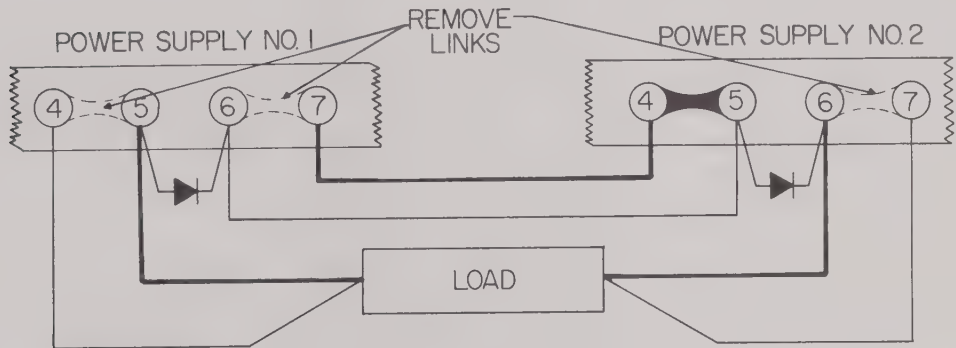

FIG. 3-10 SERIES CONNECTION OF PAX SUPPLIES
3-37 General: Kepco PAX Modules can be series-connected for increased voltage output provided the specified limits on voltage to chassis are not exceeded. When series-connected, the supplies should be protected by means of a semiconductor diode across the output terminals of each power supply, as shown in Fig. 3-10. The peak inverse rating of these diodes must be at least as large as the output voltage of the supply to which they are connected. The continuous current rating of the diodes should be at least as great as the largest short-circuit current of the interconnected supplies.
- Connect load as shown in Fig. 3-10. Keep voltage drop in load wires as low as practical by using heavy gauge wire.